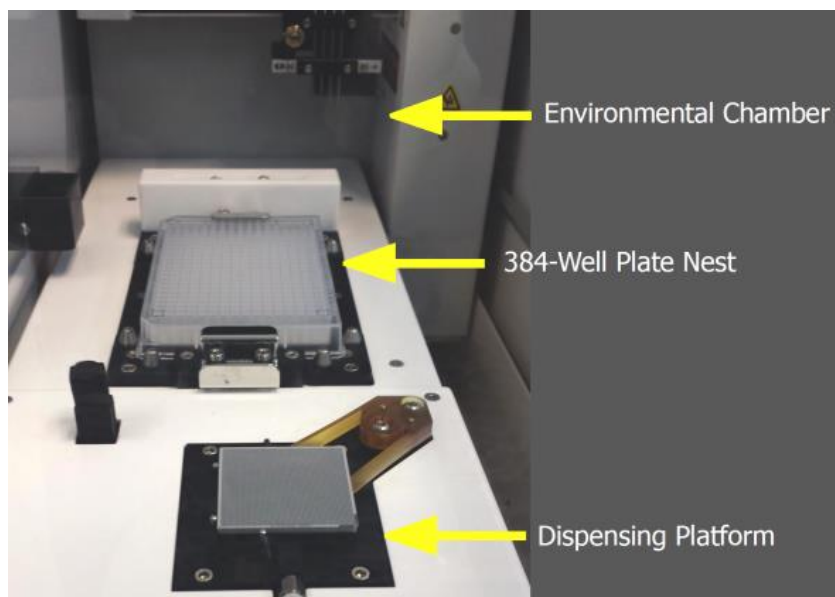

Figure 5. ICELL8 MSND Stage Module.
- All dispensing steps in the MSND Stage Module should be performed with the 384-well source plate oriented with the A1 well positioned at the top-right corner of the 384-well Plate Nest, and the chip oriented with the chamfered (notched) corner positioned towards the lower-right corner of the Dispensing Platform (Figures 5–7, below).